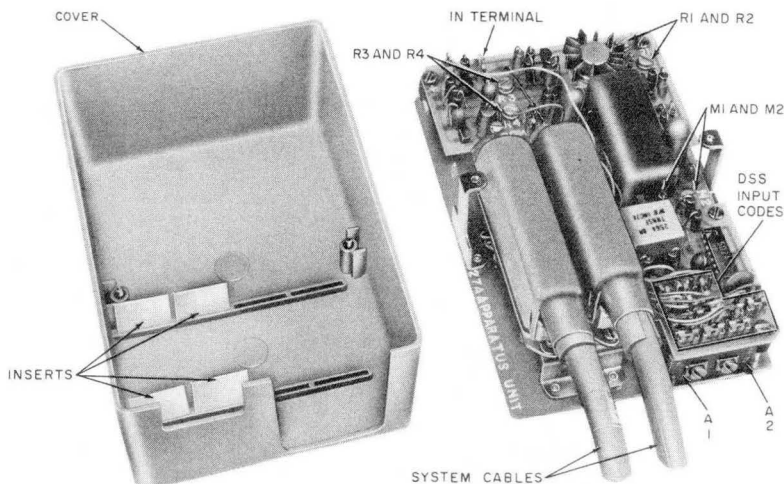

Fig. 31—27A Apparatus Unit
**3.45** The 27A apparatus unit (Fig. 31) has terminals for connection to the 4A System and the customer equipment; put it where there is convenient access to both. It must be located indoors where the temperature is always above 32°F.